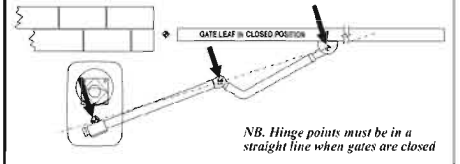

Figure 8 Align Gates
- Check that the hinge points of the gate bracket, connecting arm and motor output shaft are in a straight line as shown in Figure 8.